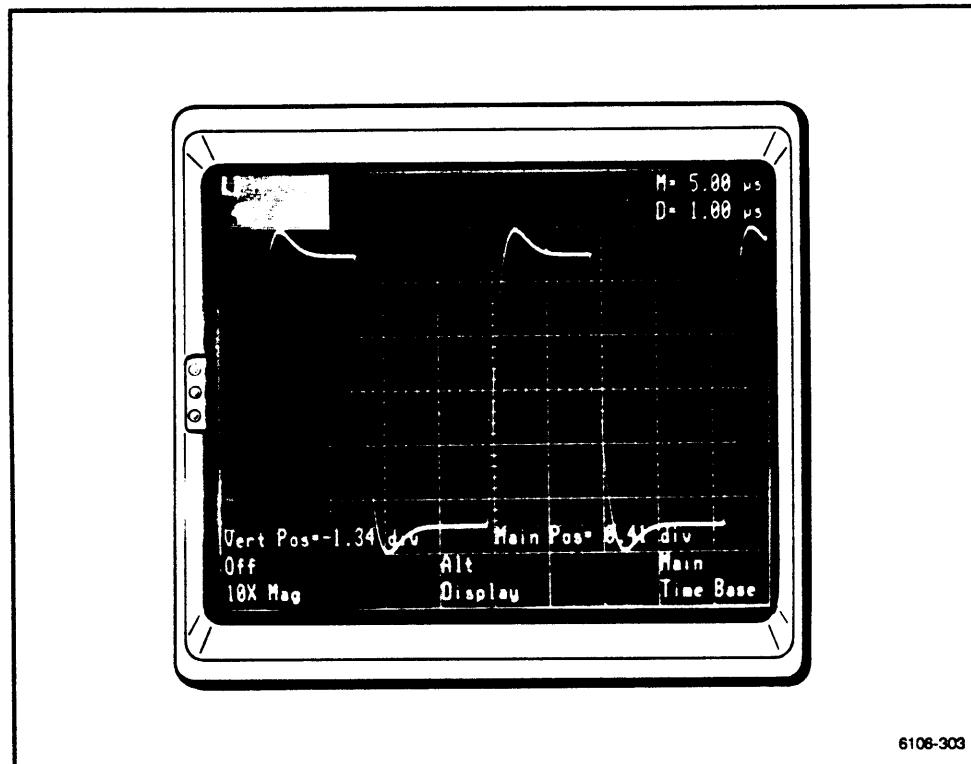

Figure 2-104. Aligning the rising edge using HORIZONTAL POSITION.
4. Press the HORIZONTAL POSITION button and align a rising edge of the signal with the center vertical graticule line. (See Fig. 2-104.)